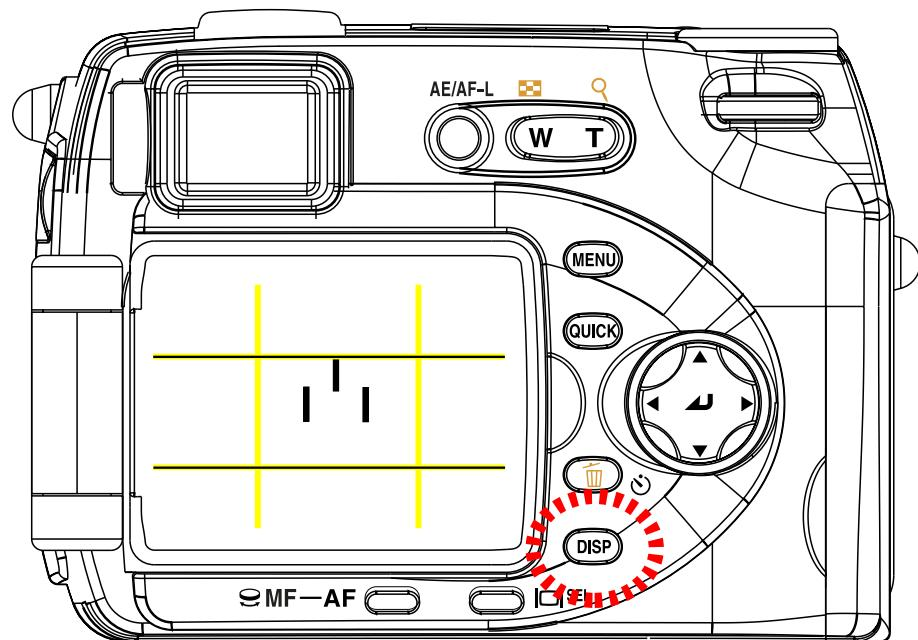

Fig.1
② Set the PAF position adjustment chart and the camera correctly.
- Fit the guideline (yellow) of the camera monitor to the horizontal line (black) of the chart correctly not to be deviated or inclined. (Fig. 1)